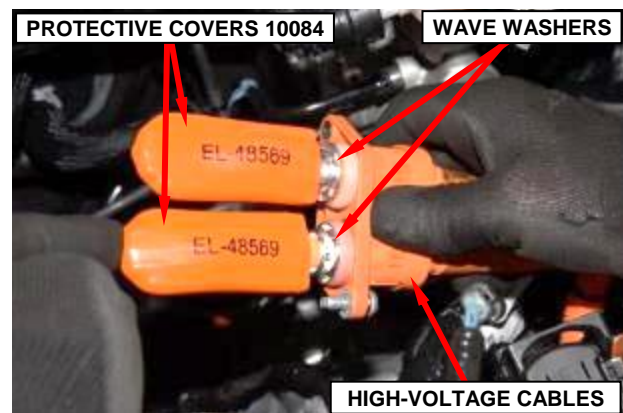

Figure 24 – Protective Covers 10084
NOTE: Ensure the wave washers remain on the high voltage battery cable connector housing during removal of the cables from the PIM housing. If the wave washers are dislodged, reseal them (Figure 24).
- 47. Cover the high-voltage cable terminals with protective covers 10084 (Figure 24) then reposition the high voltage harness to a safe location.